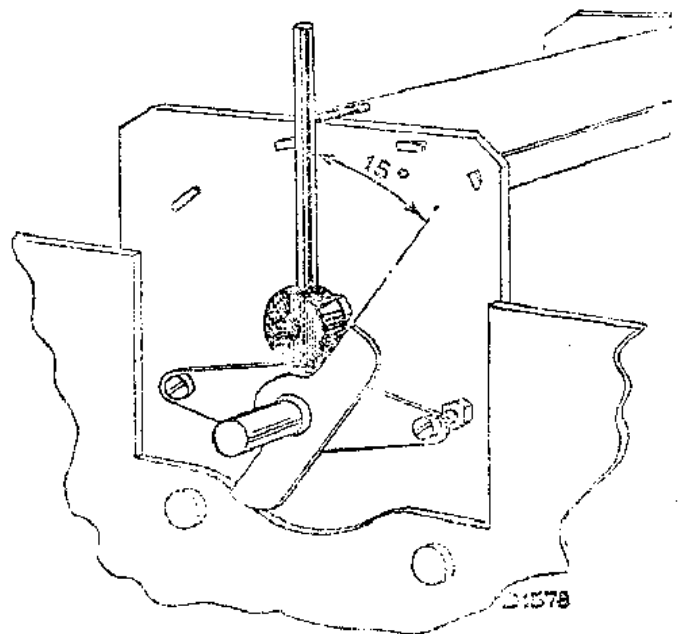

Fig. 2
1. Fit 15° jig (Fig. 2) and rotate the tuning condenser in the direction of 200 metres, until the jig is against the stop.